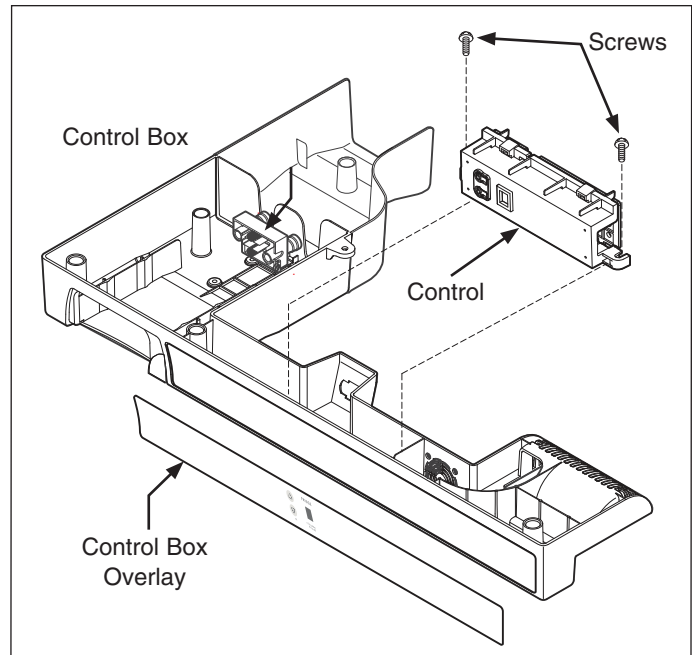

Figure 6-15. Light Fixture and Control Removal
3. Extract the two screws securing the control to the control box. (See Figure 6-15)